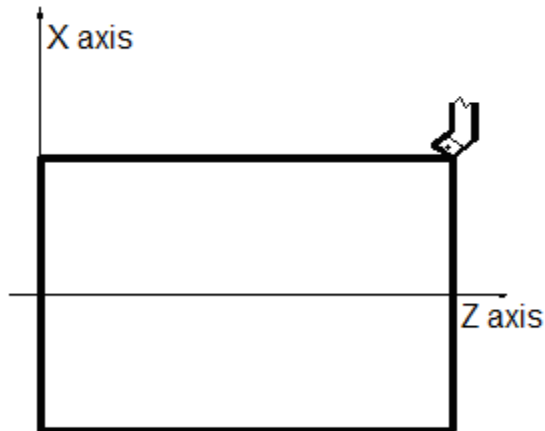
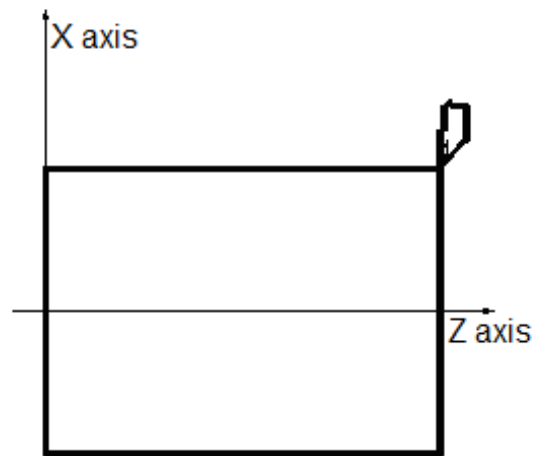

Fig.7-6
Fig.7-7
(1) Firstly, confirm whether the tool compensation value is zero or not in X and Z directions; if it is not zero, all cutter compensation values of all tool numbers must be cleared.
(2) The offset number of the tool is 00 (such as T0100, T0300);
(3) Select any tool (normally, the 1st tool during machining is taken as the reference tool)
(4) The tool nose of the reference tool is positioned in some point (tool setting point), which is shown as Fig.7-6:
(5) In MDI mode, on the program status page, the workpiece coordinate system is set by G50 X__ Z__ command;
(6) The coordinate values of the relative coordinate (U, W) are cleared;
(7) After the tool is moved into the safe position, and the other tool is selected and moved into the tool setting position, which is shown as Fig.7-7: